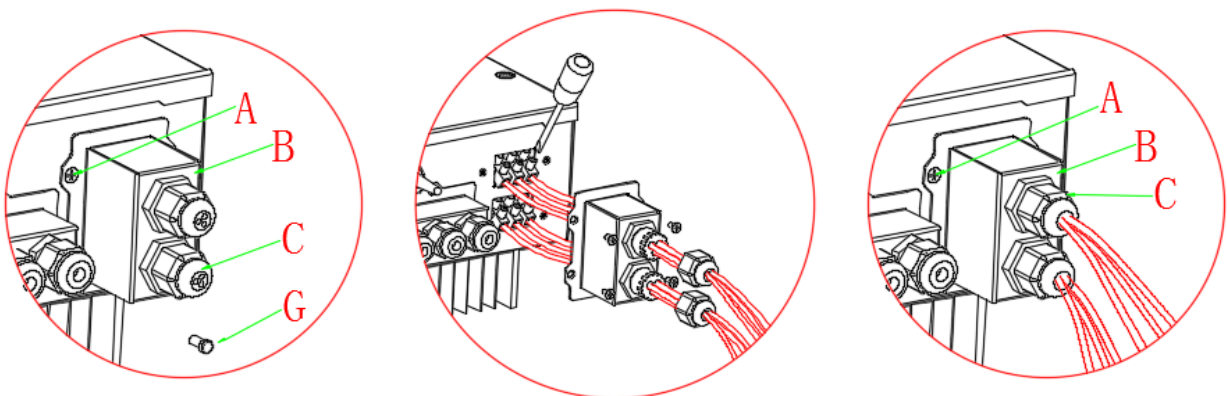

Fig. 14 Grid & Load connection
**Step 1:** Loosen 4 screws (part A) using a screwdriver (fig. 14)
The connection procedure of LOAD port is the same as grid connection (Fig. 14).